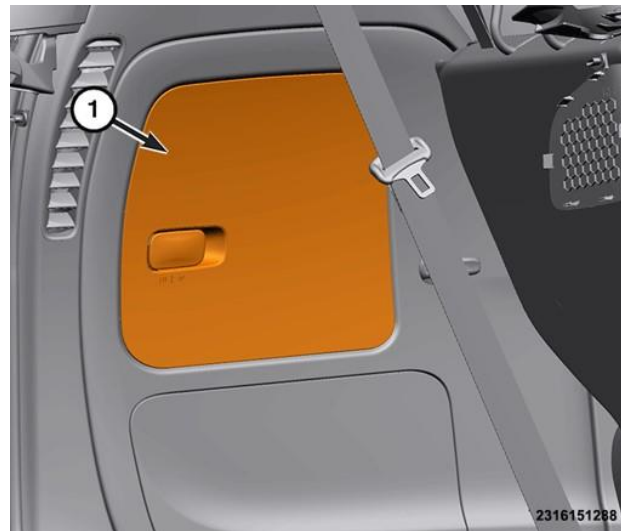

Figure 39 – Quarter Panel Insert
48. Open the access door (1) from the quarter trim panel (Figure 39).
65. Open the access door (1) on the quarter trim panel (Figure 39).
68. Close the access door (1) on the quarter trim panel (Figure 39).